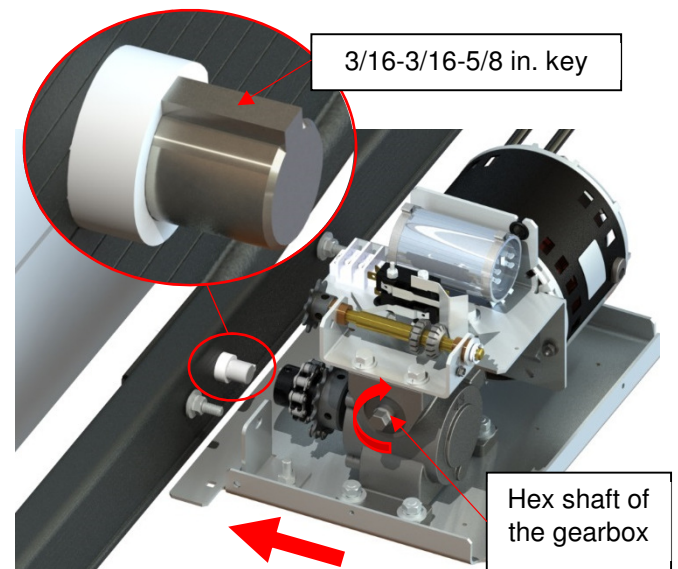
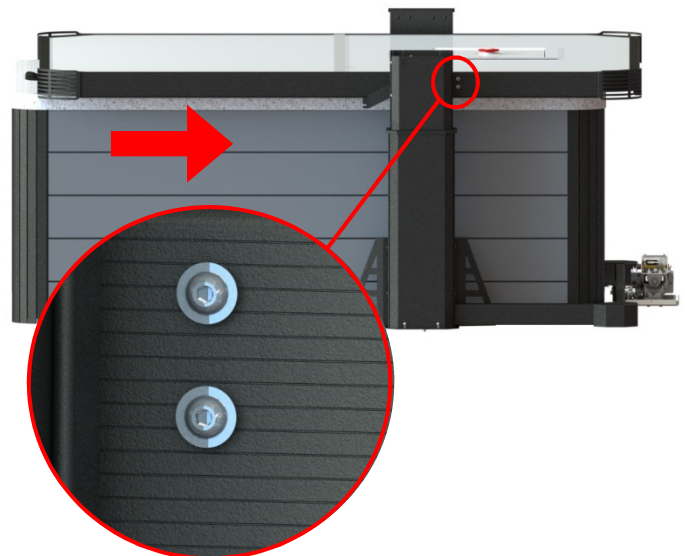

Figure 85
Figure 88
- 21) Once the operator is properly secured, remove the jack lock screws from the posts and put them in the extra holes on top of the posts as shown in Figure 85.
- 25) Use the threaded rod screws (Figure 85) on both posts to align the pivot arms' screw slots with the screw on the cover. Raise the post by turning the threaded rod screw counter clockwise and lower the post by turning the threaded rod screw clockwise. (Figure 88)
- 26) Tighten the two back 1/4-20-1 in. screws on both sides of the cover. (Figure 88)